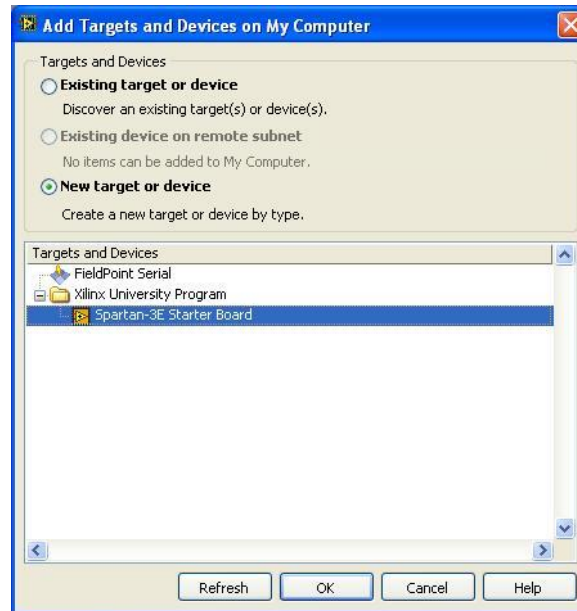

Figure 9: Add Spartan-3E Target
3. With the **Add Targets and Devices** dialog box open, select the **New target or device** radio button. Under **Targets and Devices**, expand **Xilinx University Program** and select the **Spartan-3E Starter Board** as the target. Your configuration should look similar to Figure 9. Press **OK** to confirm.